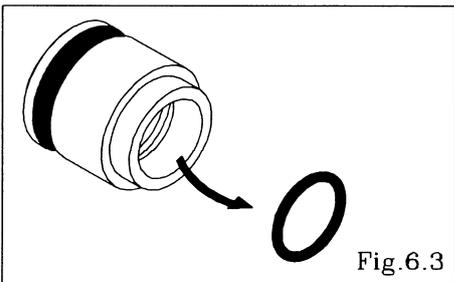

Fig. 6.3
- Remove the packing from the throat bearing. [Fig.6.3]